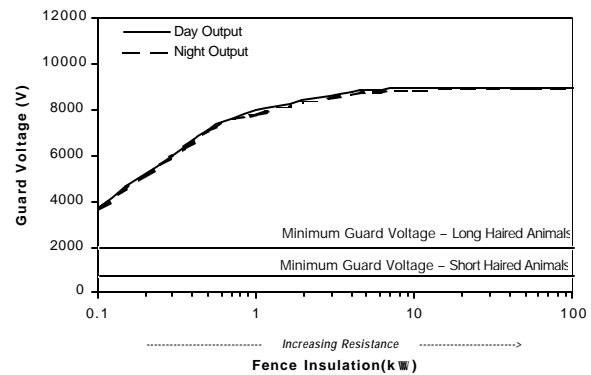

Figure 42. Guard Voltage for 3.3 mile (5.4 km) Fence.
**Shock Delivery:** Figures 42 and 43 show guard voltage outputs of the Stinger Plus DC for 3.3 and 10 mile (5.4 and 16 km) lengths of single wire fence over a range of resistances. Table 20 provides the guard voltages at the "weeded" and "clean" fence conditions. Guard voltage values for other fence conditions are given in Appendix II. The higher the guard voltage the higher the shock delivered to the animal.
As can be seen from **Figures 42 and 43**, low resistance did not appreciably affect shock delivery, since the voltage output was above 2,000 V for all fence conditions. The Stinger Plus DC can be expected to deliver shock over a wide range of fence conditions.